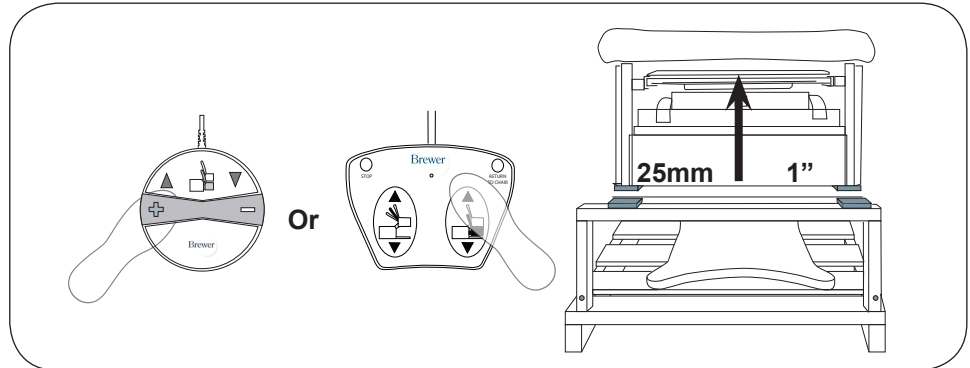

Figure 7. Raise Seat off of Brace
11. Press lift up on the foot control to raise the seat approximately 1" (Figure 7).